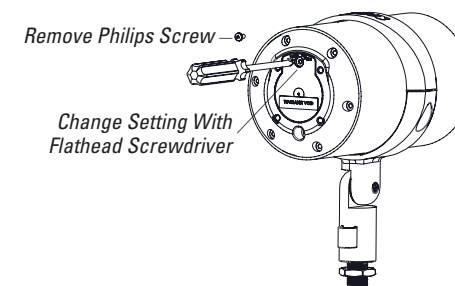

Figure 22
- The L41XC speaker ships with the transformer set to 60W. If you want to use a lower power setting use a Philips head screwdriver to remove the protective Philips screw as shown in Figure 22.